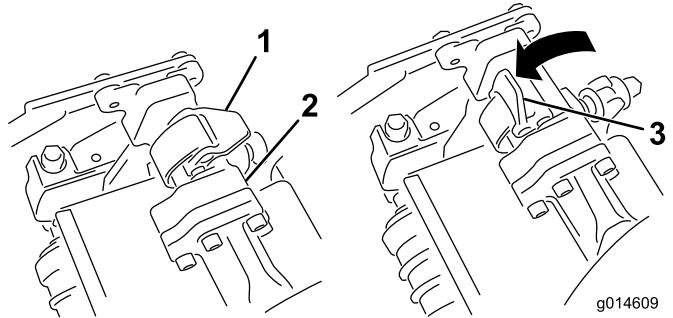
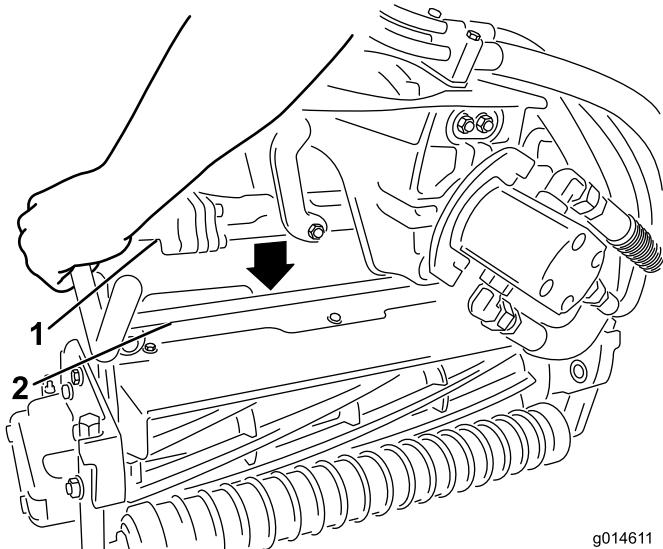

Figure 13
Figure 14
9. With the latches on the suspension-arm bar pointing up (i.e., open) (Figure 13), push the suspension arm down so that the bar fits over the top of the cutting unit (Figure 14).
10. Close the latches down and around the cutting-unit bar and lock them in place (Figure 13).